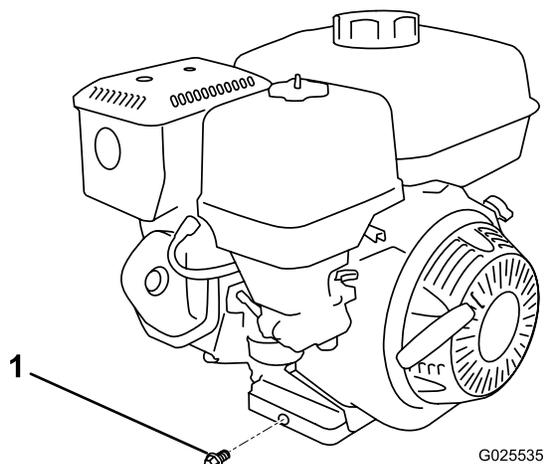

Figure 1
4. Remove the oil-drain plug, and allow the oil to drain (Figure 1).